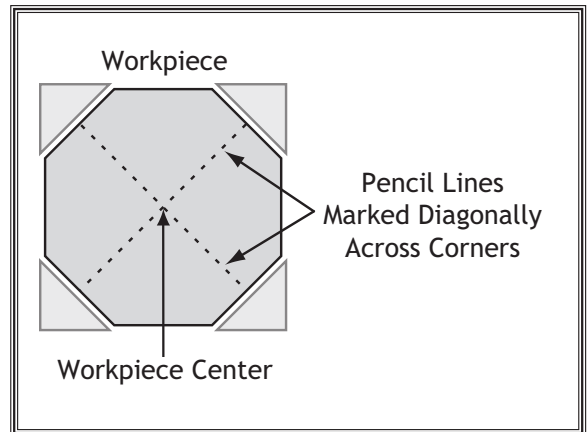

Figure 31. End of workpiece with corners removed and diagonal marks from corner to corner to find workplace center point.
1. Find center point of both ends of your workpiece by drawing diagonal lines from corner to corner across end of workpiece, as shown in **Figure 31**.